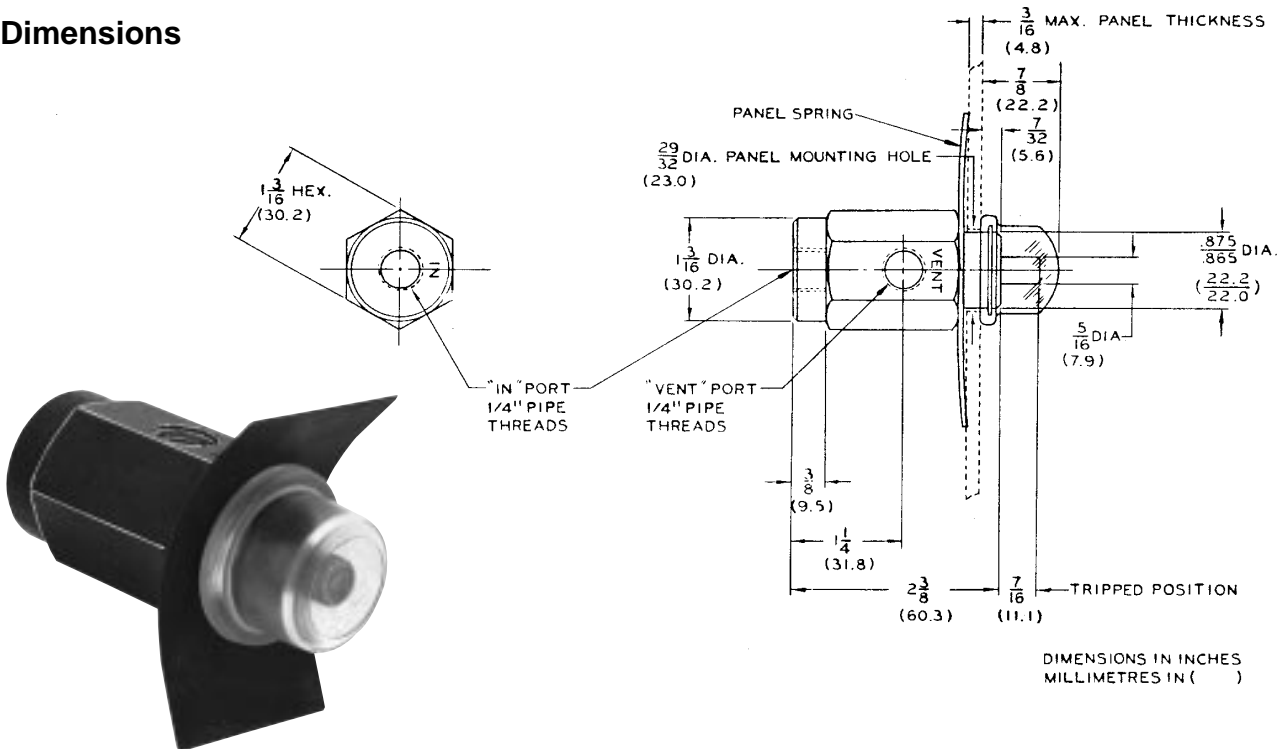

Figure 1.
The AMOT 4054 Trip Indicator may be connected directly to the VENT port of the AMOT sensing valve as shown in Figure 1. It may also be mounted remotely as shown in Figure 2. If the given limits are not exceeded. For panel mounting, Panel Spring (6) and Ring (7) are provided. The Retaining Ring (7) should be used in all installations to help hold Cover (9) in place.